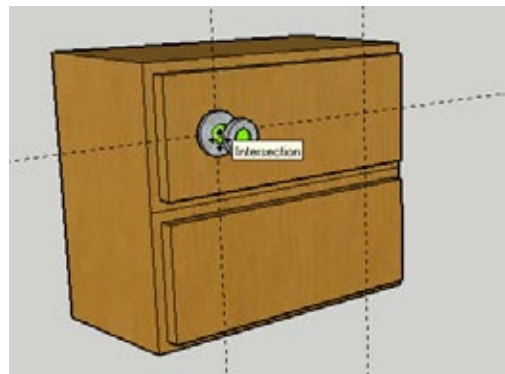

Figure 7-26
6. From the main menu, choose File→Import, and make sure the file type is set to look for SketchUp models. Import the handle model. Place its insertion point at the intersection of the construction lines, as shown in Figure 7-26. Because the handle is set to align to any face, it aligns correctly with the front of the dresser.